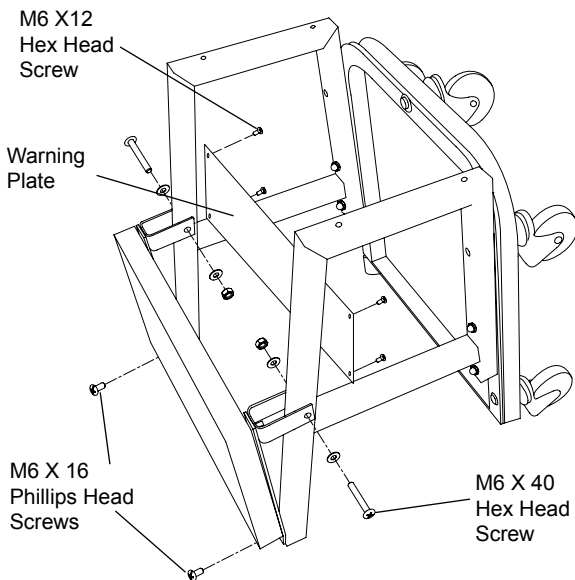

Figure 3 - Attaching Creeper Seat
3. Attach creeper Seat Cushion to creeper Side Frames using two M6 x 40 Phillips Head Screws, with washers, and nuts, and two M6 x 16 Phillips Head Screws. Then attach the Warning Plate with four M6 x 12 Hex Head Bolts as in Fig. 3.